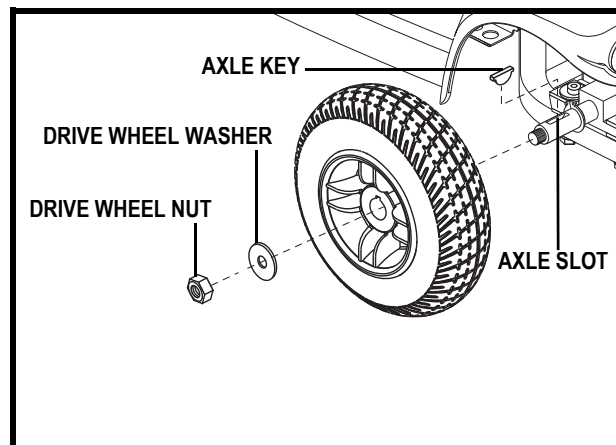

Figure 19. Drive Wheel Removal
3. Remove the drive wheel nut and washer from the axle. See figure 19.
5. Slide the new wheel back onto the axle. Make sure that the axle key is in the axle slot. See figure 19.